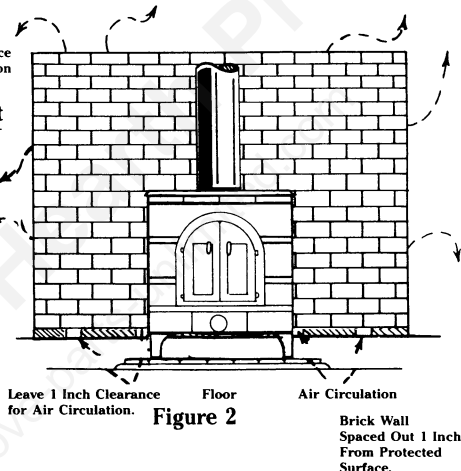
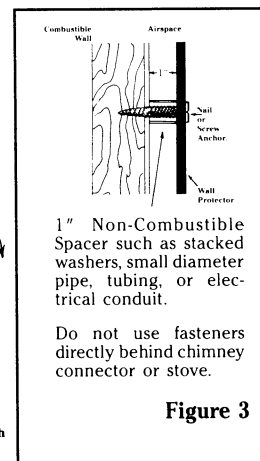

Figure 2
Figure 3
**Protected Combustible:** This is a combustible surface which has been protected by the addition of a protective shield. Such protective shields are available through Consolidated Dutchwest. A protected combustible may also be created by building a brick wall in front of a combustible wall and allowing at least 1" air space. The air space is crucial, since it keeps the heat conducted through the brick from passing to the adjoining combustible surface. It is also crucial that there be openings at the top and bottom of the shield or top and two sides, so that air can circulate through the shielded space. Otherwise, trapped air in this space can become extremely hot and will transfer heat to the adjacent combustible walls. (See figure 2)
There are many fine wall protectors commercially available today which have been designed and approved for use with woodstoves. Such wall protectors will allow for reduced clearances to the back wall. You may also construct wall protection by installing ¼" approved non-combustible wall board or its equivalent spaced 1" from the combustible back wall. See Figure 3. Check with local building officials as to what materials constitute a suitable equivalent. Alternatively, a brick wall with a 1" airspace between it and a combustible back wall (figure 2) is frequently acceptable to building code officials. This wall must be at least one inch from the ceiling and 50% of the bottom must be open to allow air passage through the air space. Table 3 contains the standard back wall clearances, the reduced clearances attainable with the use of wall protection, and the dimensions (width and height) for the back wall area to be protected.